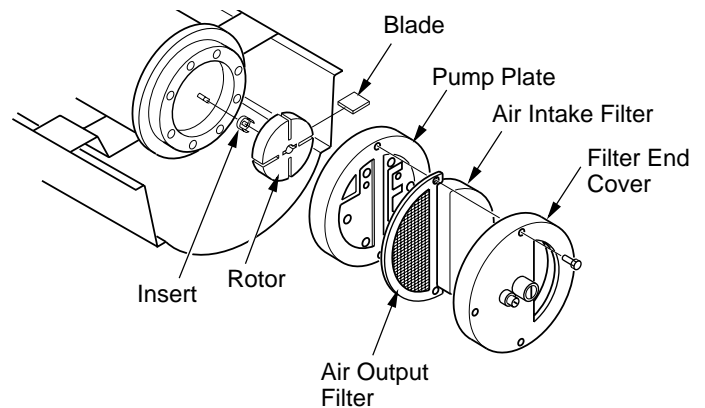

Figure 23 - Rotor Location, 70,000 Btu Units
3. Remove filter end cover and air filters (see Figure 23 or 24).